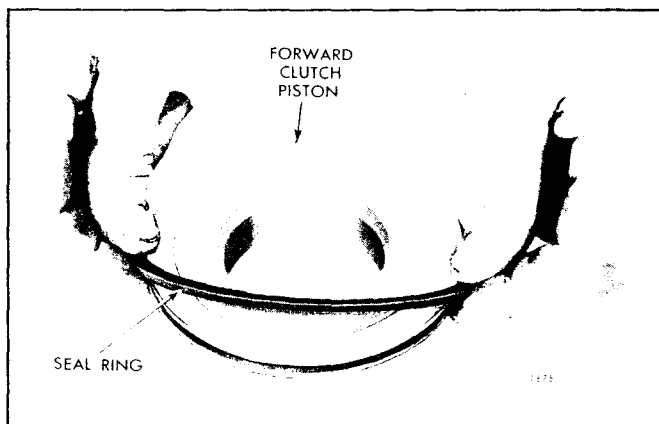

Fig. 58 - Installing Forward Clutch Piston Seal Ring on Piston
- h. Lubricate the forward clutch piston outer seal ring with engine oil; then, install the seal ring in the groove in the outside diameter of the forward clutch piston as shown in Fig. 58.